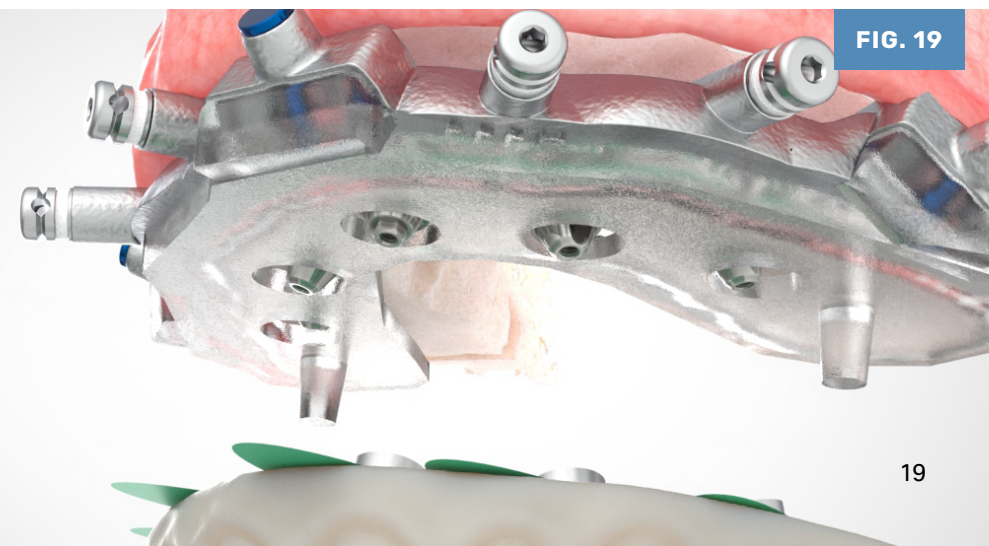

FIG. 19
5. Once fully set (dual cure, follow instructions), unscrew the cylinders and remove the RAPID Appliance. **(FIG. 19)**